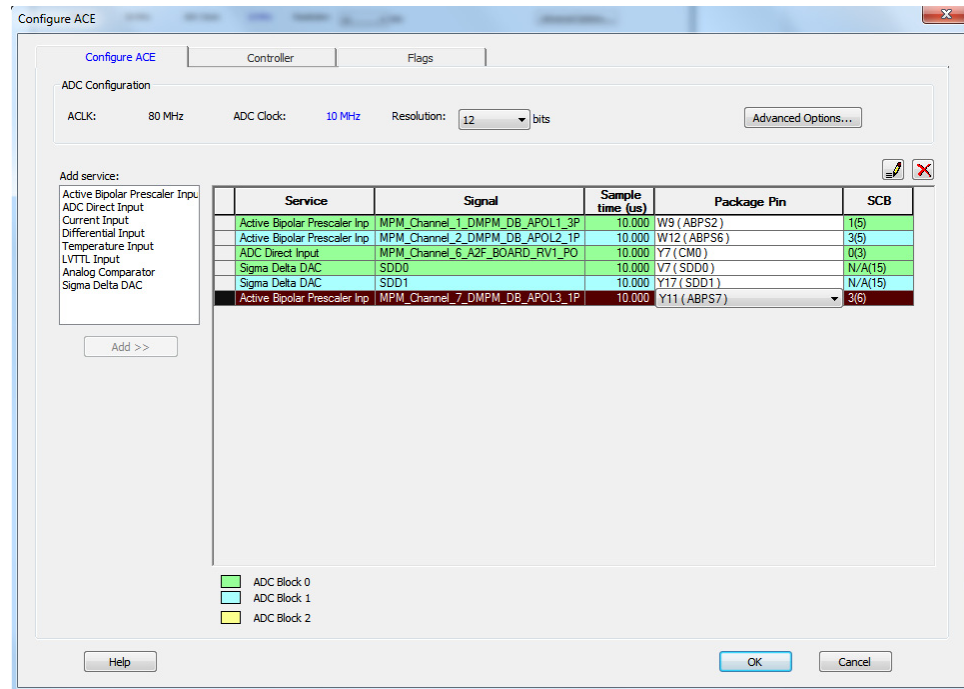

Figure 19 • ACE Configurator After Adding a Service With Package Pin
6. Typically, you will know with which analog pad the service needs to be assigned to based on your board design. The package pin assignment also determines which ABPS is selected. The Active Bipolar Prescaler Input (ABPS) service senses the voltage on an input pad and scales it to fit the range of the ADC (nominally 0 V to 2.56 V, if the internal voltage reference, V_{aref}, is used). Currently, assign the value to Y11(ABPS7). The ACE configurator looks like in Figure 19.